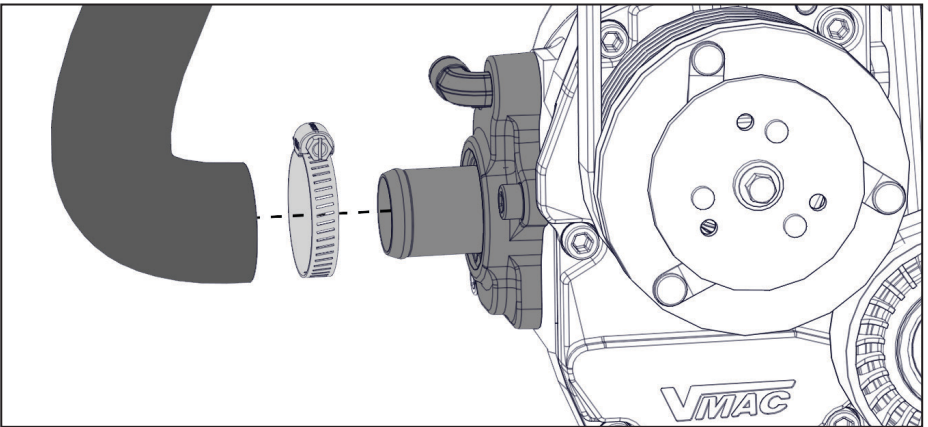

Figure 32 — Install intake hose
- Install the curved end of the 1 in intake hose assembly onto the spigot on the side of the compressor. Direct the hose upwards and secure it using the supplied hose clamp (Figure 32).